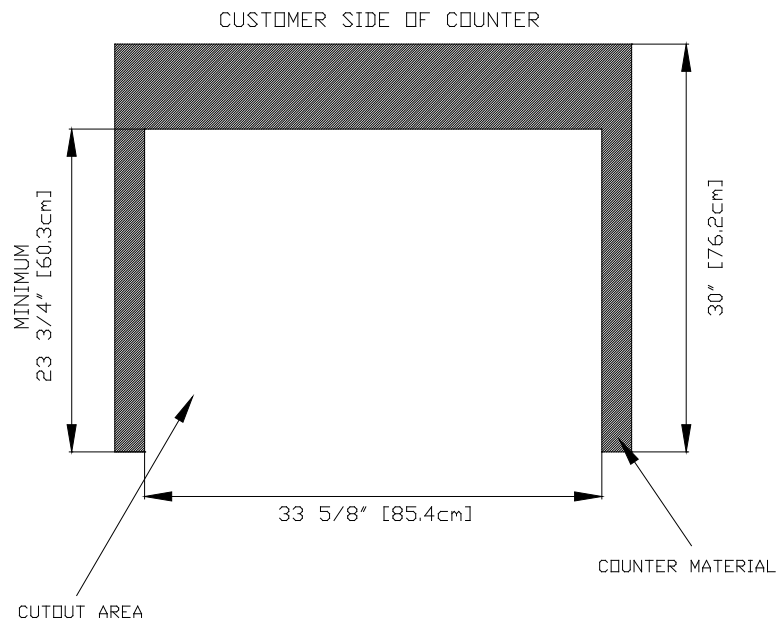

Figure 1.2, Alternate Counter Cutout
- ❑ For **alternate installation**, cut opening as illustrated in figure 1.2.